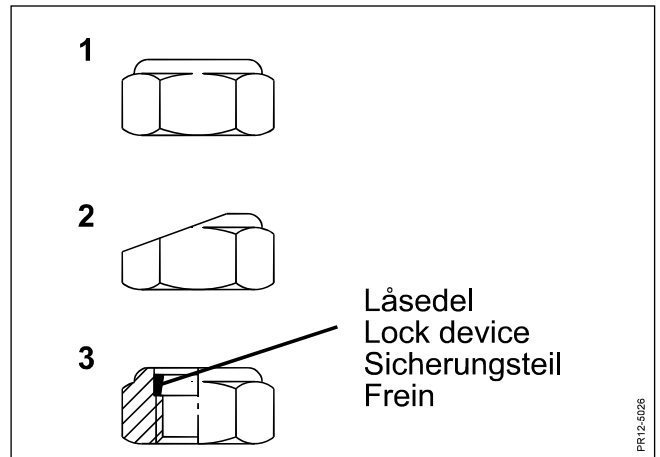

Fig. 5-8
- Fig. 5-8** The special nut must be replaced if: